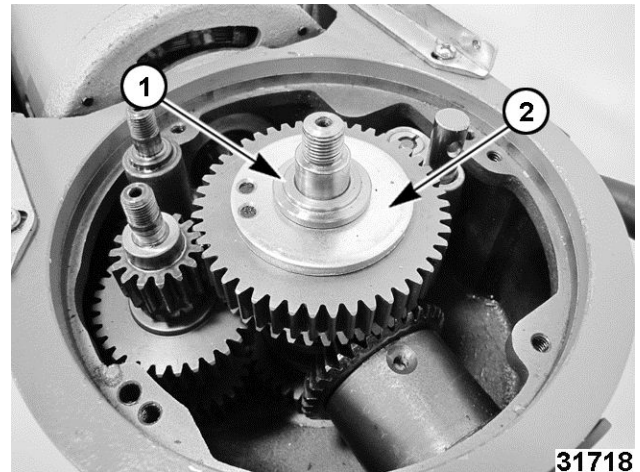

Fig. 21
8. Remove upper shouldered spacer (1, Fig. 21).
9. Remove roller clutch spacer (2, Fig. 21).